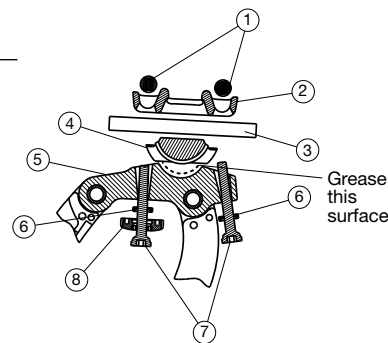

Figure 1
9. Begin to tighten the front and rear clamp bolts. The saddle tilt adjustment is controlled by these two bolts. Check that the saddle tilt and fore/aft position of the saddle are correct before final tightening. The front bolt can be adjusted by hand or hex wrench, but the rear bolt must be tightened to 60 in*lb (6.8 N*m) with a 4 mm hex wrench. Be sure all the components of the clamp are installed as shown in section view. (Figure 1)